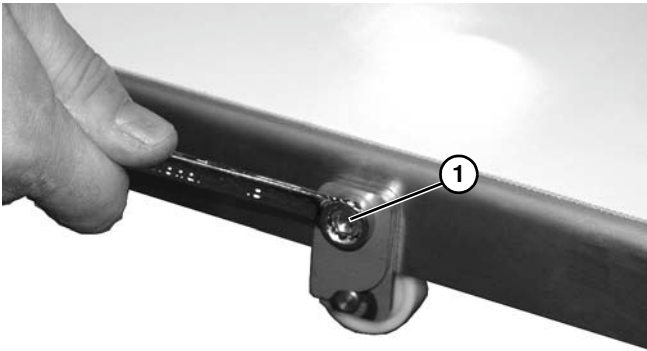

Figure 28
8. Tighten nut (Figure 28, item 1).